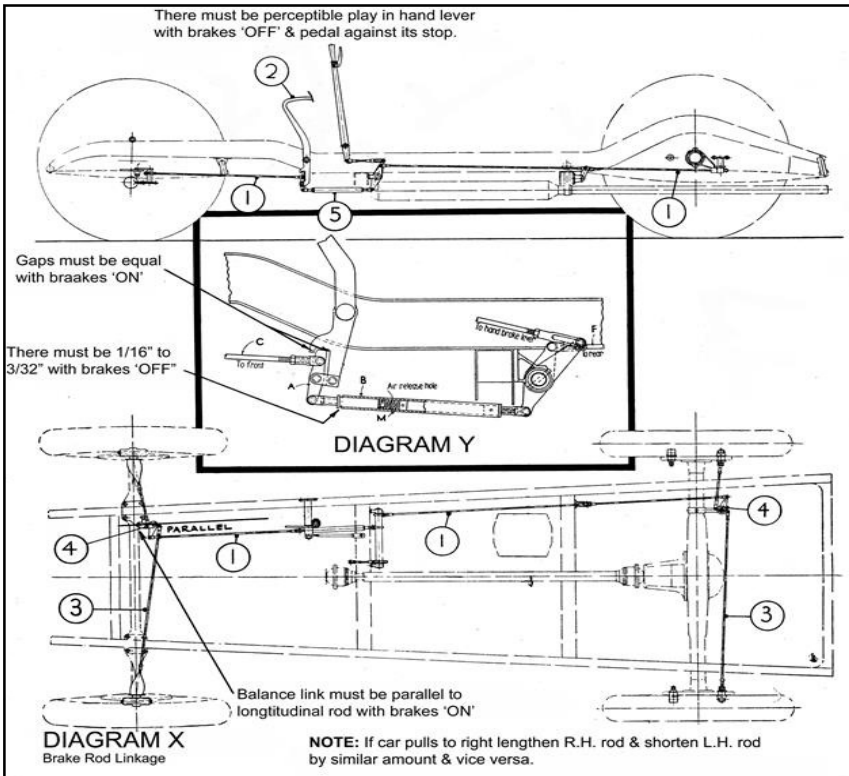

FIG. 21. GENERAL LAYOUT OF GIRLING BRAKE SYSTEM, EMPHASIZING THE MORE IMPORTANT POINTS IN SERVICING.
Girlinging Brake Rod Linkage: Reference to Fig. 21 shows a typical brake rod linkage layout used for Girling Brakes.
A small gap (approx. 1/16 in.) (See Diagram Y, Fig. 21) is left between the plunger and tube when the brakes are in the "off" position. So long as this gap is maintained, the brake shoe actuating cones will not be pulled off their respective seatings.
1. A Swinging Link A (See Diagram Y, Fig.21), which is located at the base of the pedal. This Link proportions the pedal effort between front and rear brakes, and this proportion is not varied by adjustment. The Link is also provided with a Safety Stop, so that in the event of any rod failing, this Link will rock over against its stops and one set of brakes will always be available on the pedal. A further point is that under no circumstance can one single front or rear wheel brake remain operative alone. This is extremely important as braking on any one wheel only, is definitely dangerous.
Lubrication Service: The Girling Brake requires no lubrication or attention of any sort whatever. The adjuster and expander housings retain an adequate supply of lubricant and the balance levers work on a fixed fulcrum with the interposition of self-lubricating bushes. All holes in brake jaws are appreciably larger than the pins which fit them, but no rattle is present as the entire linkage is pulled one way by the light Spring (M) (See Fig. 21, Diagram Y). This type of joint is also very efficient.